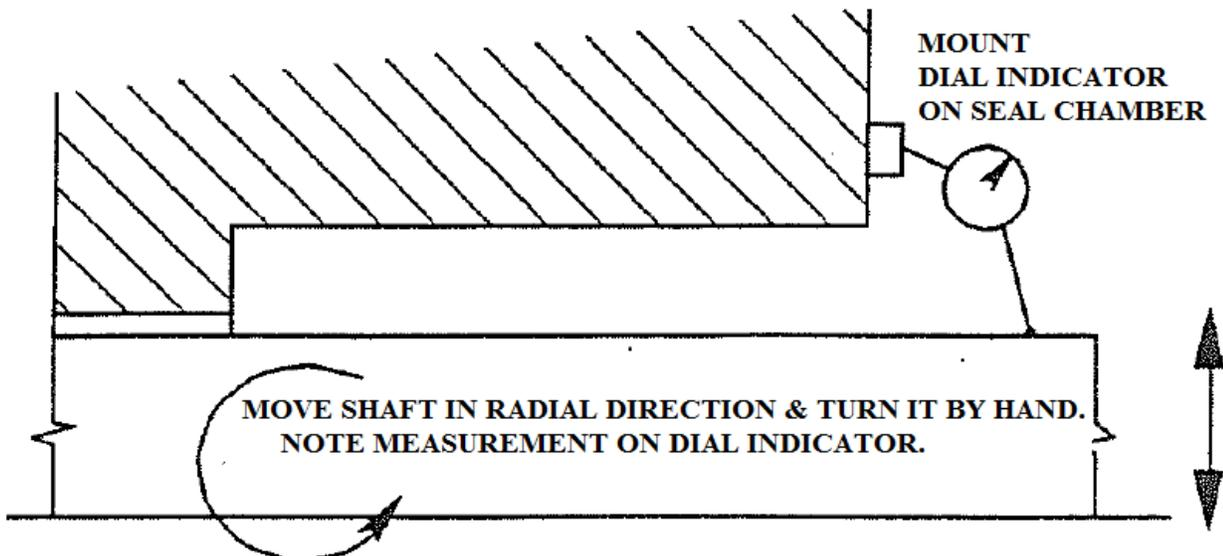

Figure 3
- Measure radial shaft movement and runout. A maximum radial movement of 0.124" TIR and runout of 0.020" TIR is acceptable (Figure 3).